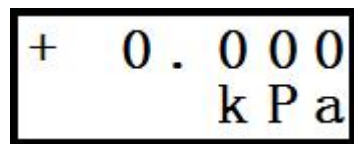

Figure28
5.2 Enter "Confirm" once and the screen will display LRL (0kPa), as shown in Figure28;